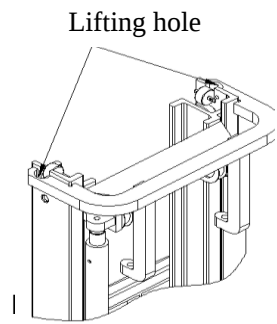

Figure 2-21
- (1) Figure 2-21 shows the lifting system